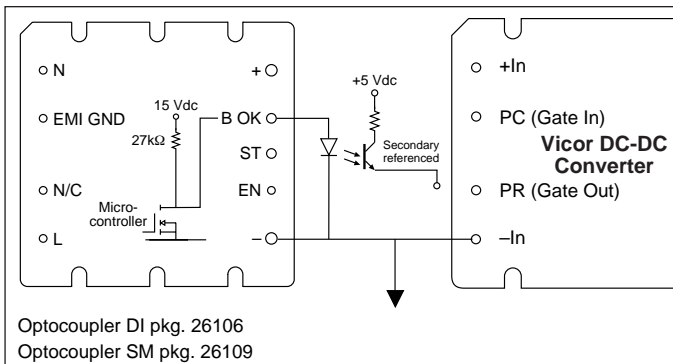

Figure 11—Bus OK (BOK) isolated power status indicator
**Bus-OK (BOK) Pin.** (see Fig. 11) The Bus-OK pin is intended to provide early-warning power fail information and is also referenced to the negative output pin.